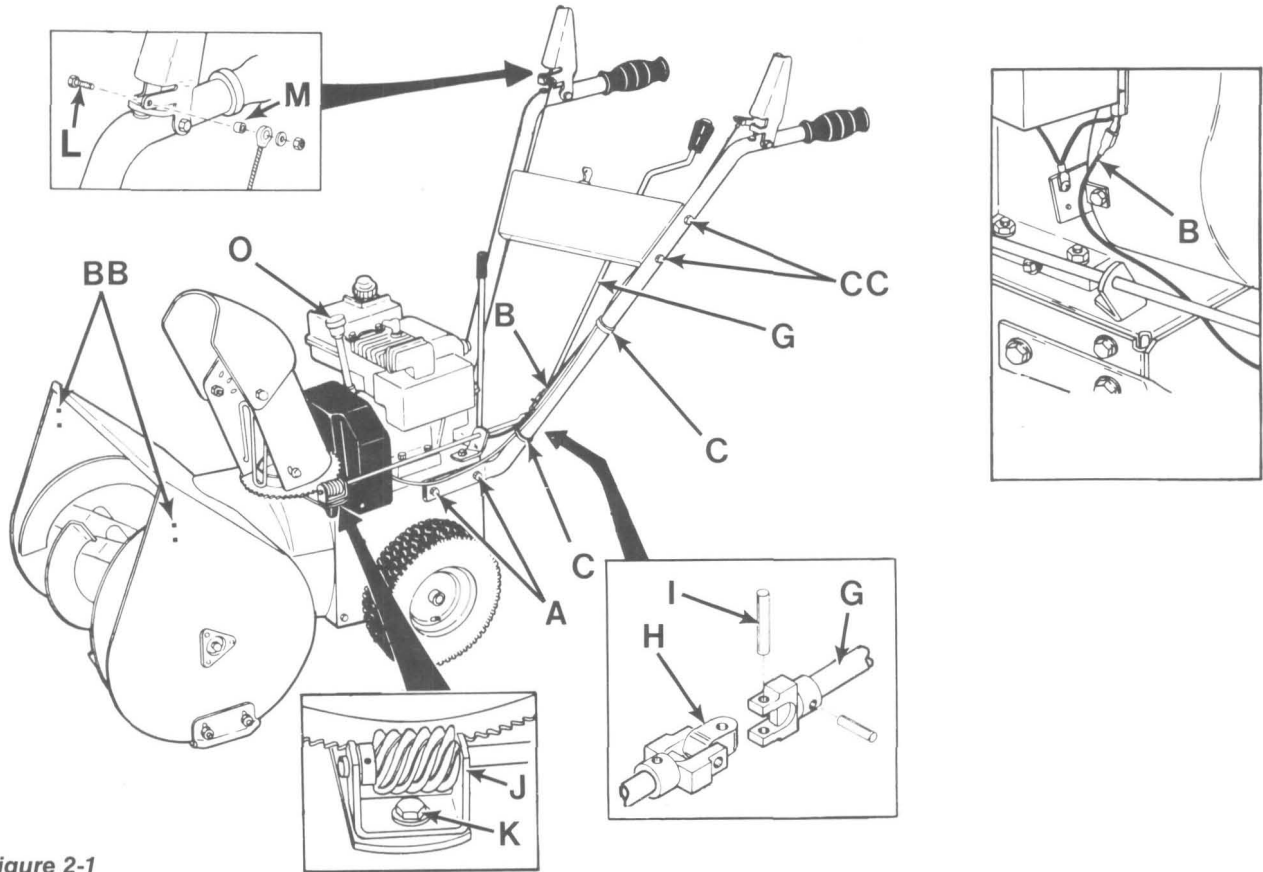

Figure 2-1
2. Place the lower ends of the handlebar assembly on the outside of the upper rear corner of the frame as shown in Figure 2-1 (Item A). Align the two holes in the left side of the lower end of the handlebars with the two holes in the left side of the frame.
6. Use the two 7/16-inch wrenches to check the four handlebar control panel mounting screws (Figure 2-1, Item CC) for tightness.
1. Run the black ignition ground wire down the left-hand handlebar tube as shown in Figure 2-1 and 2-2 (Item B).
2. Plug the connector at the lower end of the black ignition ground wire into the terminal beneath the Engine Control Lever. See Figure 2-1 (Item B).
3. Attach the black ground wire to the lower left handlebar with the two tie straps. See Figure 2-1 and 2-2 (Item C).
- Connect the chute crank (Figure 2-1, Item G) to the plastic universal joint (Figure 2-1, Item H) by using the hammer and block of wood to gently tap the roll pin into the universal joint and chute crank.
- Rotate the chute control crank at the handlebar console to make sure that the deflector chute turns without binding. If the deflector chute binds, readjust bracket (Figure 2-1, Item J) as follows:
- Loosen screw (Figure 2-1, Item K).
- Adjust bracket (Figure 2-1, Item J) by moving it inward or outward as necessary.
- Retighten screw (Figure 2-1, Item K).
- Place one of the hex screws (Figure 2-1, Item L) through the hole in the right-hand handlebar lever. Hold the screw in place and put a spacer (Figure 2-1, Item M) over the threaded end of the hex screw. Run the auger drive cable from the right-hand side of the snowthrower, upward beneath the handlebar control panel, and place the upper end of the cable over the spacer.
1. Unscrew the dipstick/oil filler cap (Figure 2-1, Item O).
Use four 5/16–18 x 3/4 flange screws and lock nuts to secure the drift slicers to the outside of the snowthrower's auger housing. Use bolt holes (Figure 2-1, Item BB) when attaching the drift slicers.